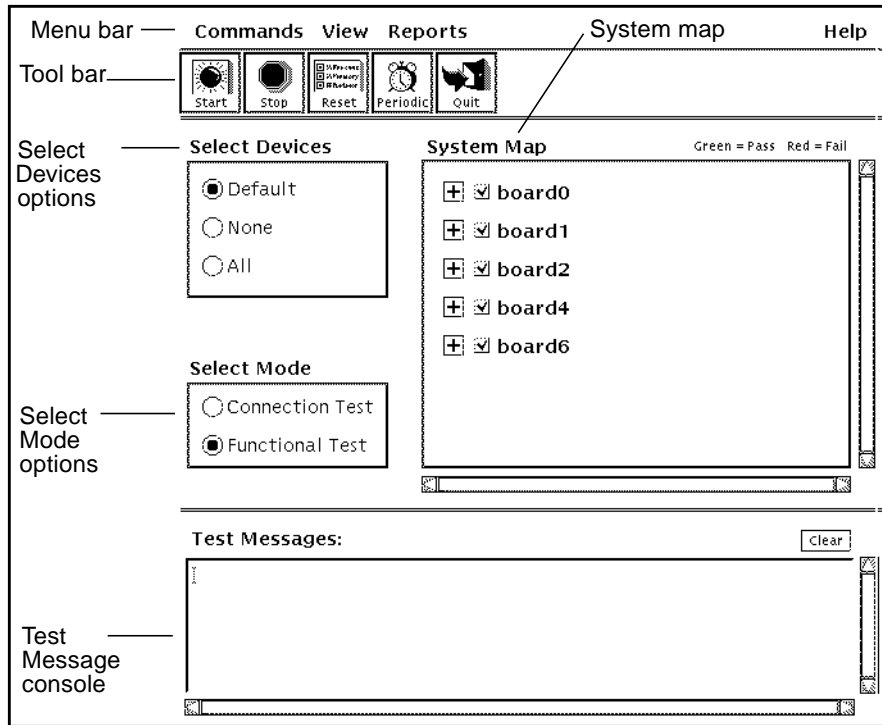

FIGURE 3-6 SunVTS Online Diagnostic Tool
The Online Diagnostics icon (see FIGURE 3-1) launches the SunVTS Online GUI. This GUI is used to perform online diagnostics and troubleshoot components (see FIGURE 3-6).
To schedule testing at a future time, either periodically or for one time, use the Periodic Testing feature under the Commands menu. When you click the Online Diagnostics console, the following screen is displayed (see FIGURE 3-6).
TABLE 3-3 describes the features shown in FIGURE 3-6.
- To run a test on one device or just a few devices, select None. Select the device(s) you want tested by clicking the device name or checkbox (see FIGURE 3-6).